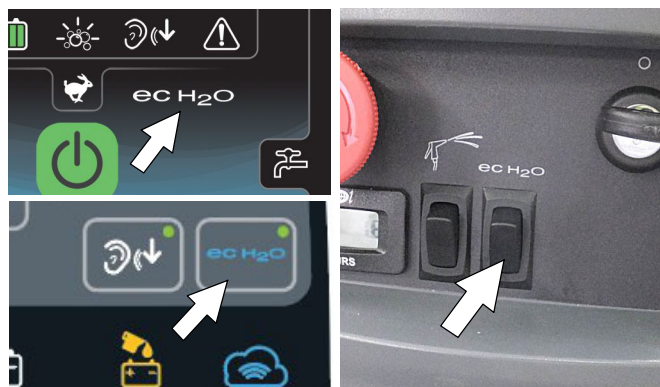

FIG. 66
3. ec-H2O models - The ec-H2O system will automatically turn on at key start up. The ec-H2O indicator will appear on the control panel indicating that the system is activated (Figure 66).
**ATTENTION:** When conventional scrubbing with cleaning detergents in solution tank, make sure to turn off the ec-H2O system by pressing the ec-H2O button (Figure 66). If cleaning detergent is accidentally cycled through ec-H2O system, a system fault will occur. To clear fault, drain solution tank, add clear water and operate the ec-H2O system to clear fault. If fault repeats, continue to recycle key until fault clears. See SERVICE INDICATOR CODES for further detail.